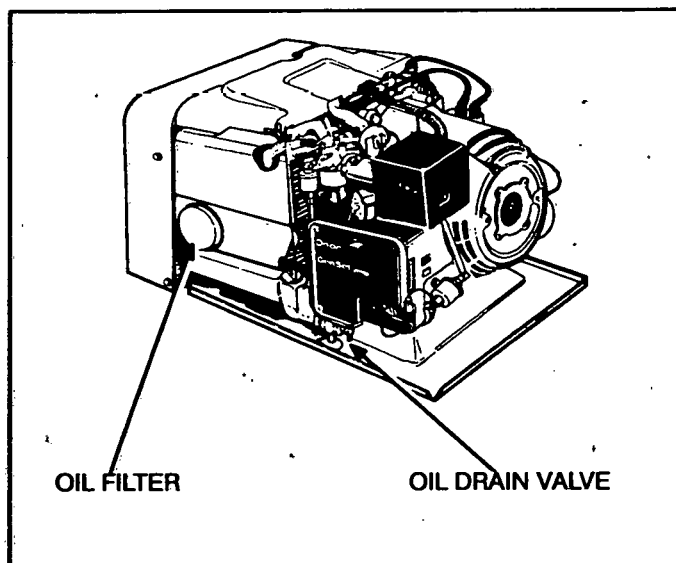

FIGURE 9. OIL DRAIN PLUG AND OIL FILTER
3. Open the oil drain valve (Figure 9) and allow all of the oil to drain from the engine.
5. Spin off the oil filter canister (Figure 9), drain it of oil and discard it according to local regulations.